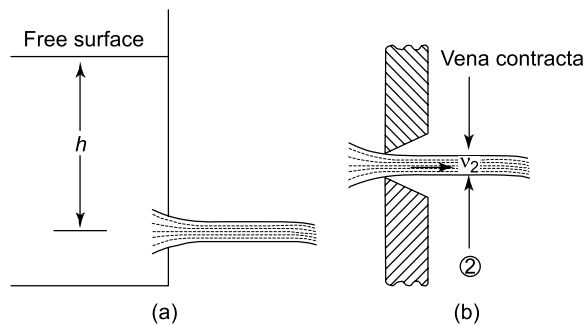

Figure 24.13
Consider the flow of a liquid through a small orifice, as shown in Figures 24.13(a) and (b), where it can be seen that the vena contracta (*VC*) lies just to the right of the orifice. The cross-sectional area of the fluid is the smallest here and its decrease in area from the orifice is measured by the coefficient of contraction (C_c).
- If in Figure 24.13, $h = 6 \text{ m}$, $C_c = 0.8$, $C_v = 0.7$, determine the values of C_d and actual v_2 . [$C_d = 0.56$, $v_2 = 6.08 \text{ m/s}$]
- If in Figure 24.13, $h = 10 \text{ m}$, $C_c = 0.75$, $C_v = 0.65$, and the cross-sectional area is $1.5 \times 10^{-3} \text{ m}^2$, determine the discharge and the actual velocity v_2 . [$C_d = 0.488$, 6.84 m/s , 7.90 kg/s]